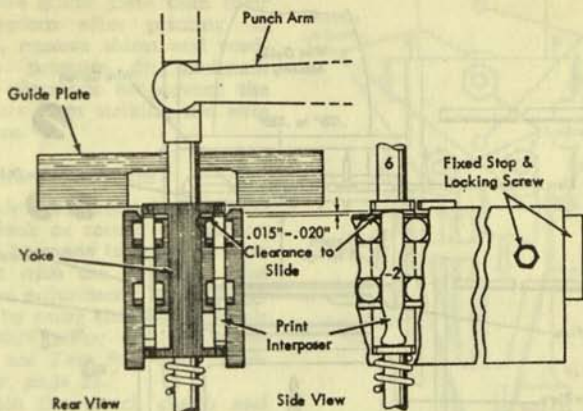

Figure 34. Punch Drive and Yoke Adjustment
There should be a clearance of .015" to .020" between the yokes and guides as shown in Figure 34. It is obtained by adjusting the punch drive unit. The clearance will result in the rollers contacting the print interposers a minimum of .015" above the start of cam action. Because the clearance cannot be measured, it is obtained as described below.
1. Latch the punch clutch and loosen the horizontal and vertical fixed stop locking screws. Back out a turn or two on both fixed stop adjusting screws (Figure 34).